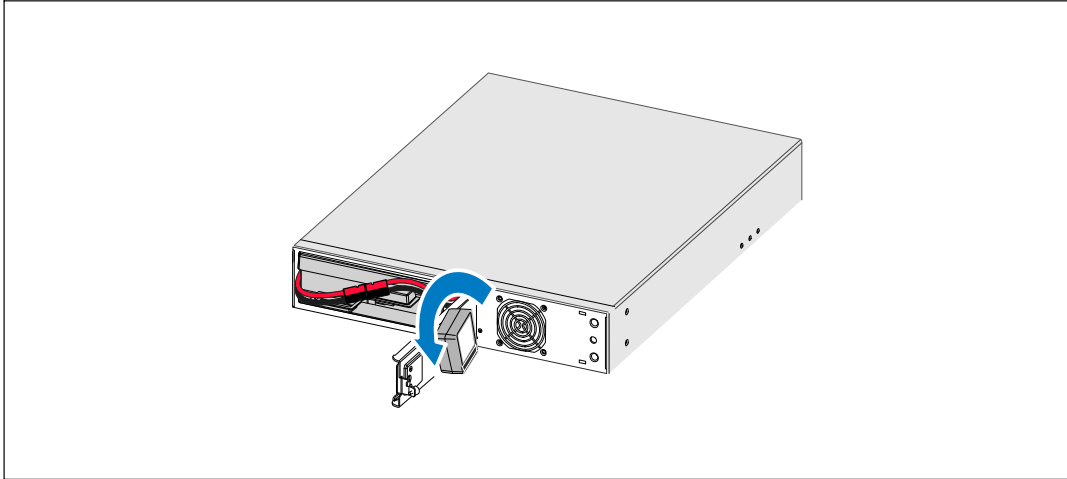

Figure 22. Adjusting the UPS Control Panel Orientation
- 4 Rotate the control panel 90° counterclockwise (see Figure 22).